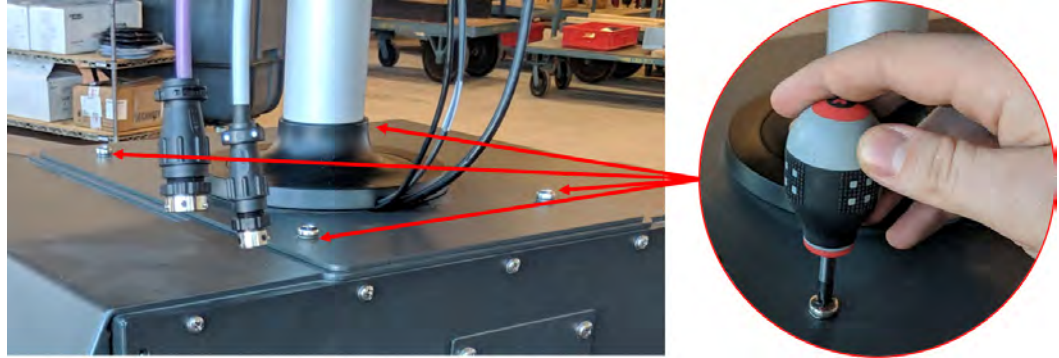

Figure 16-22 Operator Interface Screw Removal
4. Use a #4 Phillips screwdriver to remove the four screws that hold the operator interface to the top of the mainframe. Refer to Figure 16-22.